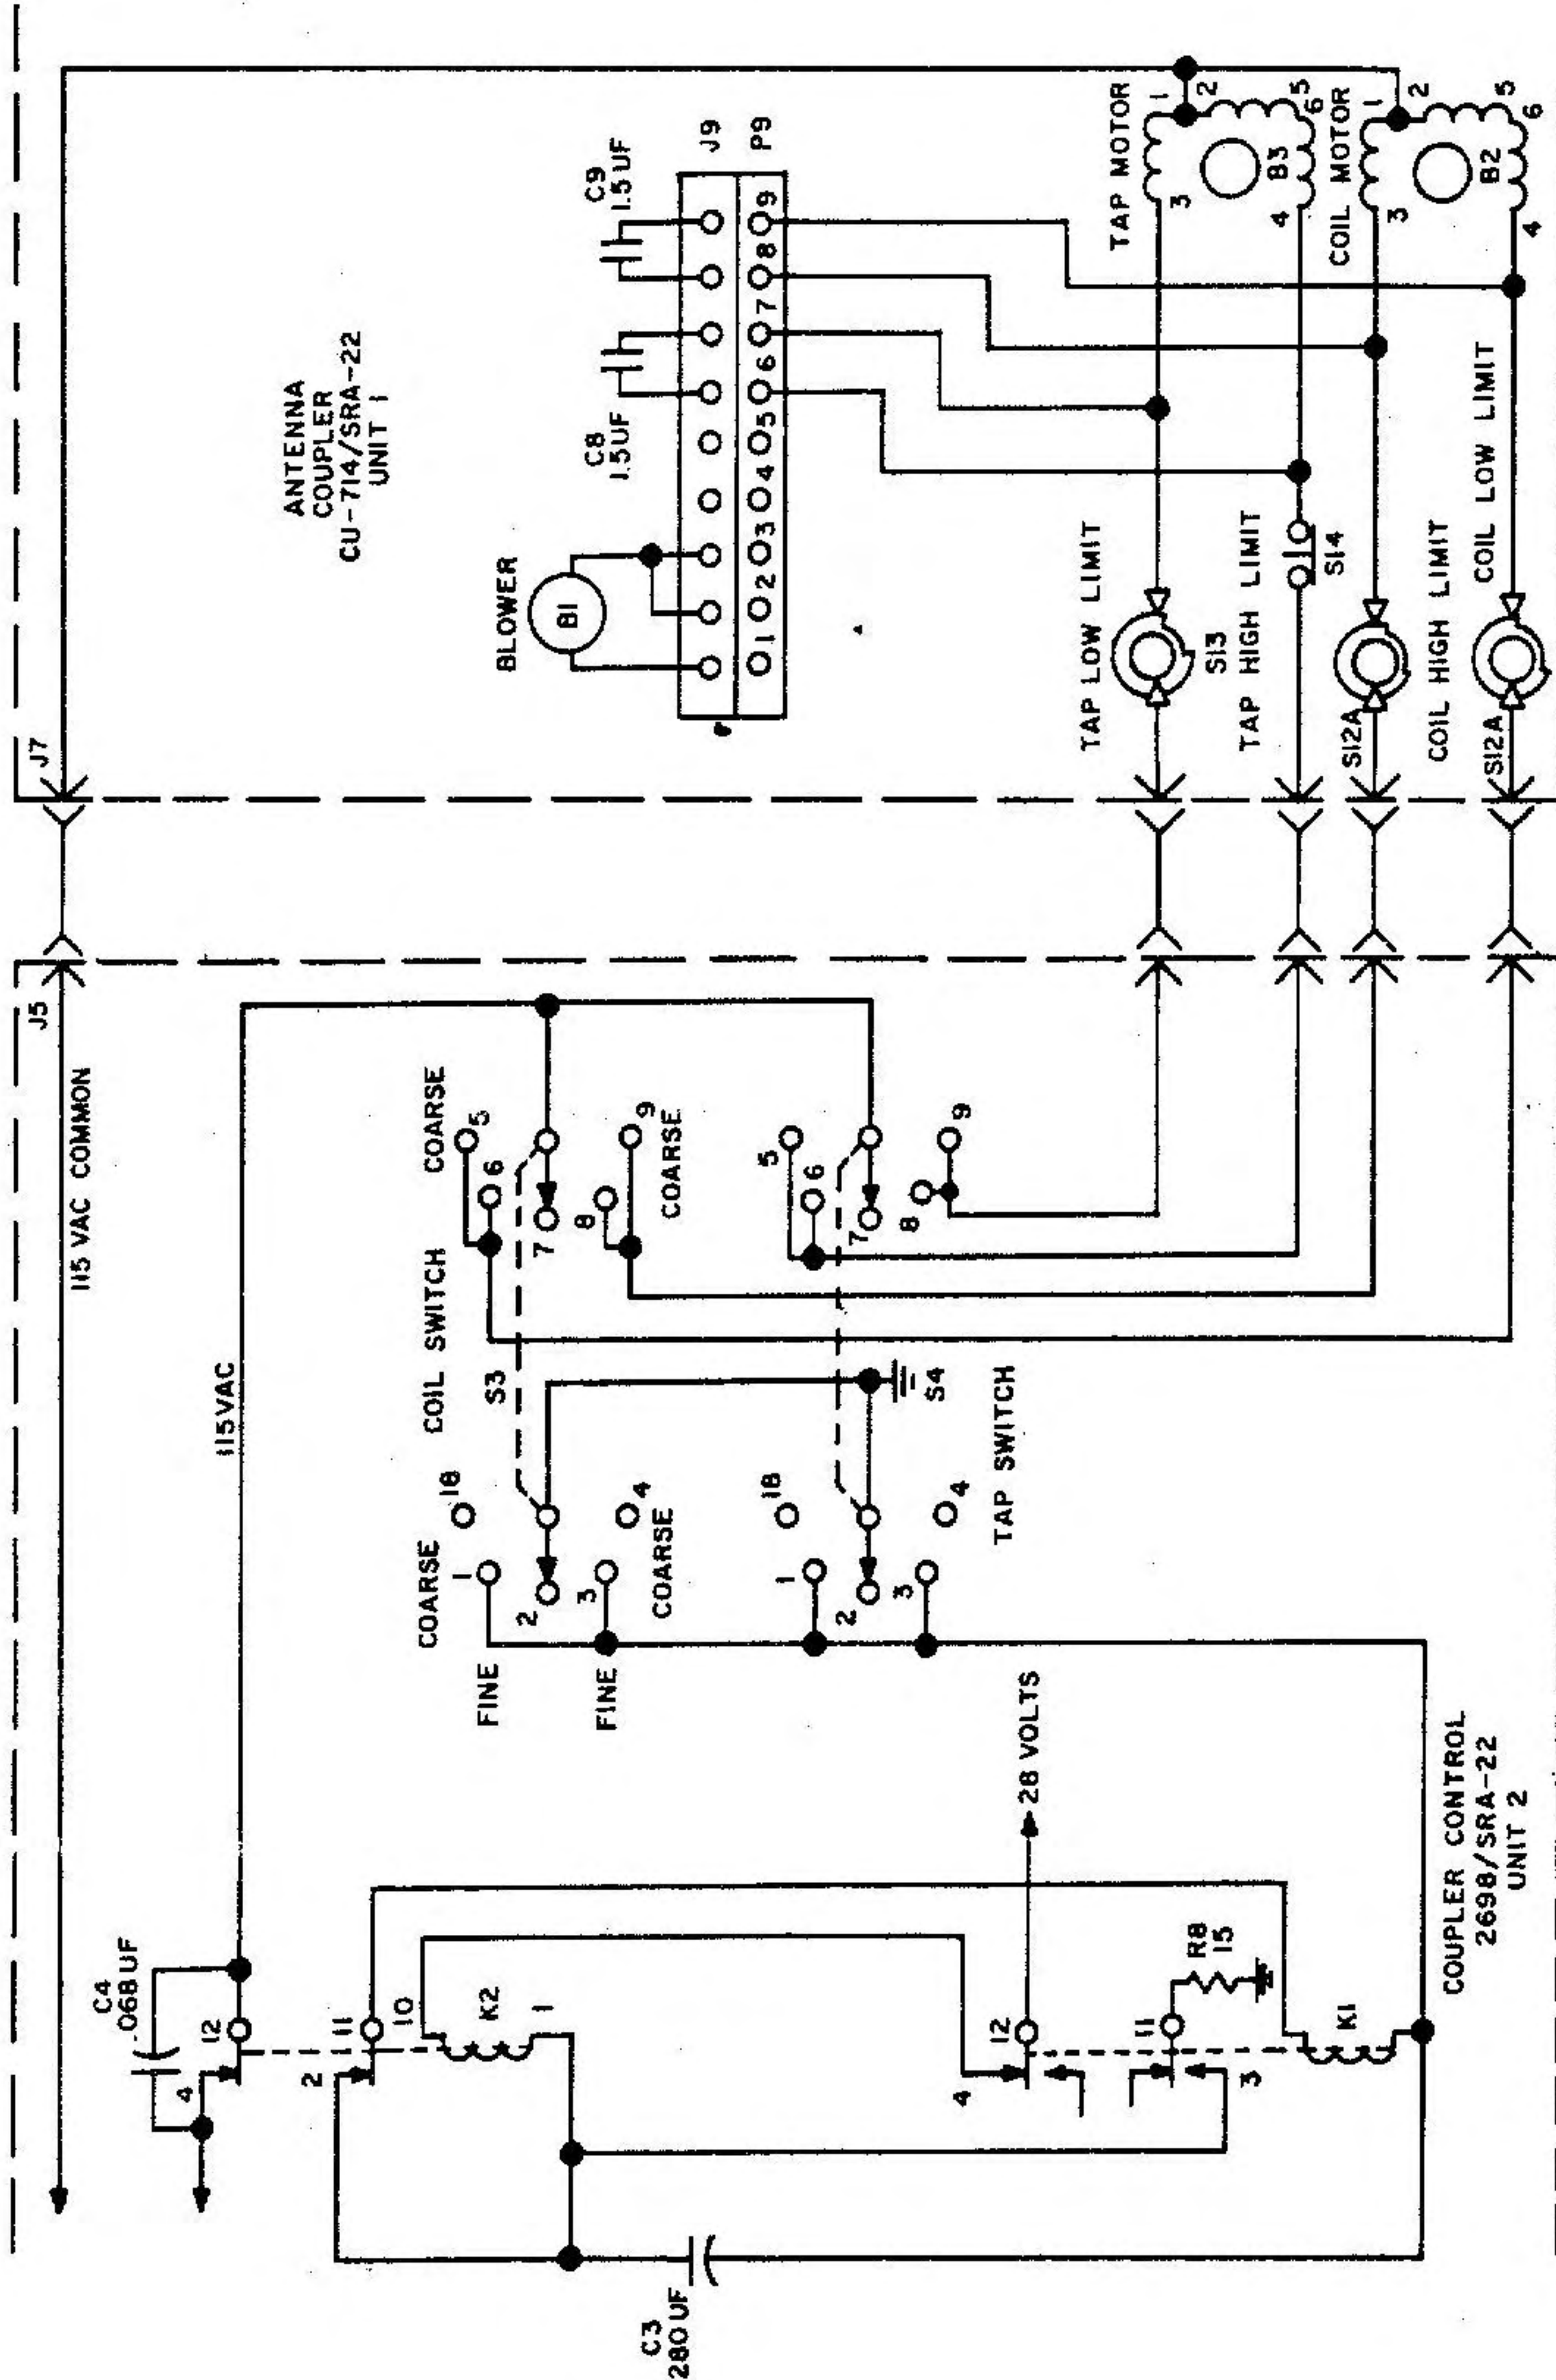

Figure 4-3. Coil-Tap Tuning Circuit, Simplified Schematic Diagram
(2) COIL COARSE TUNE-FINE TUNE. - Refer to figure 4-3 for simplified schematic diagram. When switch 2S3 is set to COARSE TUNE (switch contacts 4 and 9, or 5 and 18), 115 volts ac is applied through contacts 4 and 12 of relay 2K2 to common of switch 2S3, either through contact 5 of switch 2S3 and limit switch 1S12B to terminal 4 of coil motor 1B2 and phase-shifted through capacitor 1C9 to terminal 3, or through contact 9 of switch 2S3 and limit switch 1S12A to terminal 3 of coil motor 1B2 and phase-shifted through capacitor 1C9 to terminal 4. When switch 2S3 is set to FINE TUNE (switch contacts 1 and 6, or 3 and 8), one end of capacitor 2C3 receives a ground through contacts 1 or 3 of switch 2S3. Relay coil 2K2 receives +28 volts through contacts 4 and 12 of relay 2K1, causing relay 2K2 to be energized by the charging current of capacitor 2C3. When capacitor 2C3 is fully charged, relay 2K2 will become de-energized, causing the charge present in 2C3 to be applied through contacts 2 and 11 of relay 2K2 to the coil of relay 2K1, energizing relay 2K1 by discharging capacitor 2C3 through the coil. When contacts 3 and 11 of relay 2K1 complete the circuit, resistor 2R8 accelerates the discharge of capacitor 2C3.